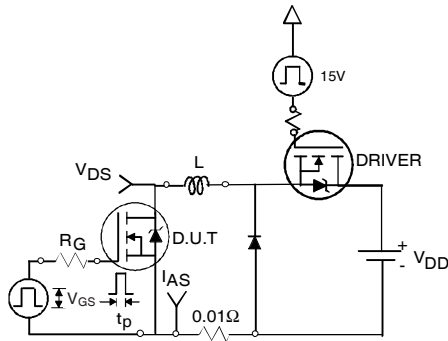

Fig 12a. Unclamped Inductive Test Circuit
- ③ $I_{SD} \leq 75A$, $di/dt \leq 220A/\mu s$, $V_{DD} \leq V_{(BR)DSS}$, $T_J \leq 175^\circ\text{C}$.
- ④ Pulse width $\leq 1.0\text{ms}$; duty cycle $\leq 2\%$.
- ⑤ $C_{oss \text{ eff.}}$ is a fixed capacitance that gives the same charging time as C_{oss} while V_{DS} is rising from 0 to 80% V_{DSS} .
- ⑥ Limited by T_{Jmax} ; see Fig.12a, 12b, 15, 16 for typical repetitive avalanche performance.
- ⑦ This value determined from sample failure population. 100% tested to this value in production.
- ⑧ This is applied to D²Pak, when mounted on 1" square PCB (FR-4 or G-10 Material). For recommended footprint and soldering techniques refer to application note #AN-994.
- ⑨ Max $R_{DS(on)}$ for D²Pak and TO-262 (SMD) devices.
- ⑩ TO-220 device will have an R_{th} value of 0.45°C/W .
3. Equation below based on circuit and waveforms shown in Figures 12a, 12b.